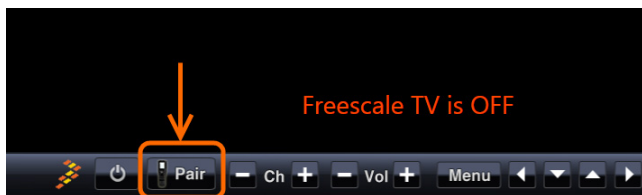

Figure 9. Pair Button Highlighted in TV GUI
14. Within 30 seconds from initiating PBP on the 1323x-RCM, start the pairing process on the HECA TV GUI by moving the PC mouse over the TV window and clicking the “Pair” button in the button bar when it appears at the bottom of the TV window (Figure 9).